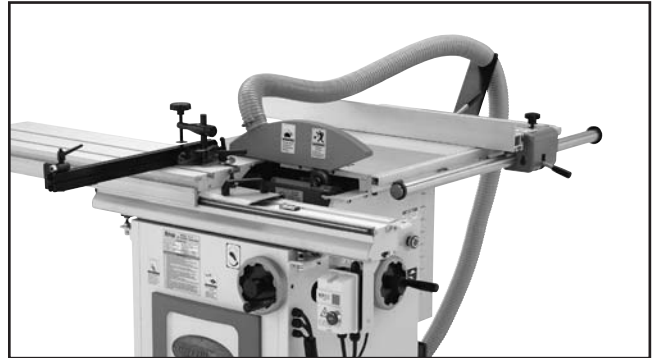

Figure 29. Dust hose support in use.
30. Run the 2½" hose over the hose support, as shown in **Figure 29**.